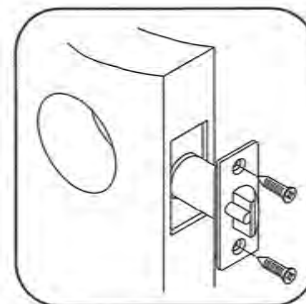

Figure 3
2.1: Install Latch with included two 3/4" (19mm) Flat Head Screws. (**Fig. 3**) The FLAT edge of the 'Latch' should face the DIRECTION the door OPENS.